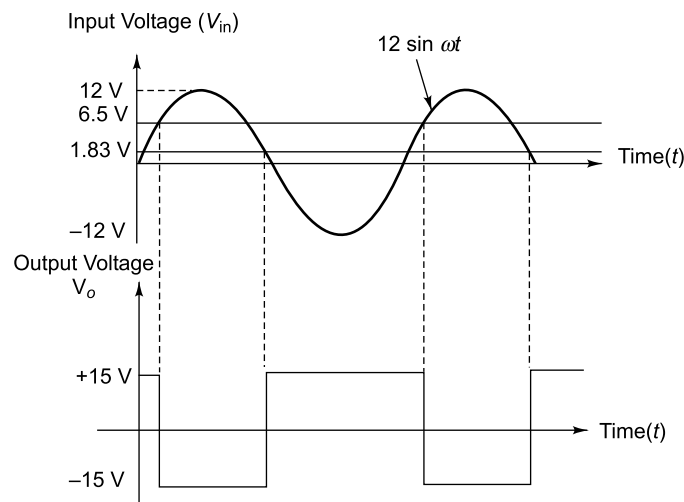

Fig. 5.80 Input and output voltage waveforms of Schmitt trigger circuit
- (b) The output voltage waveform is shown in Fig. 5.80.